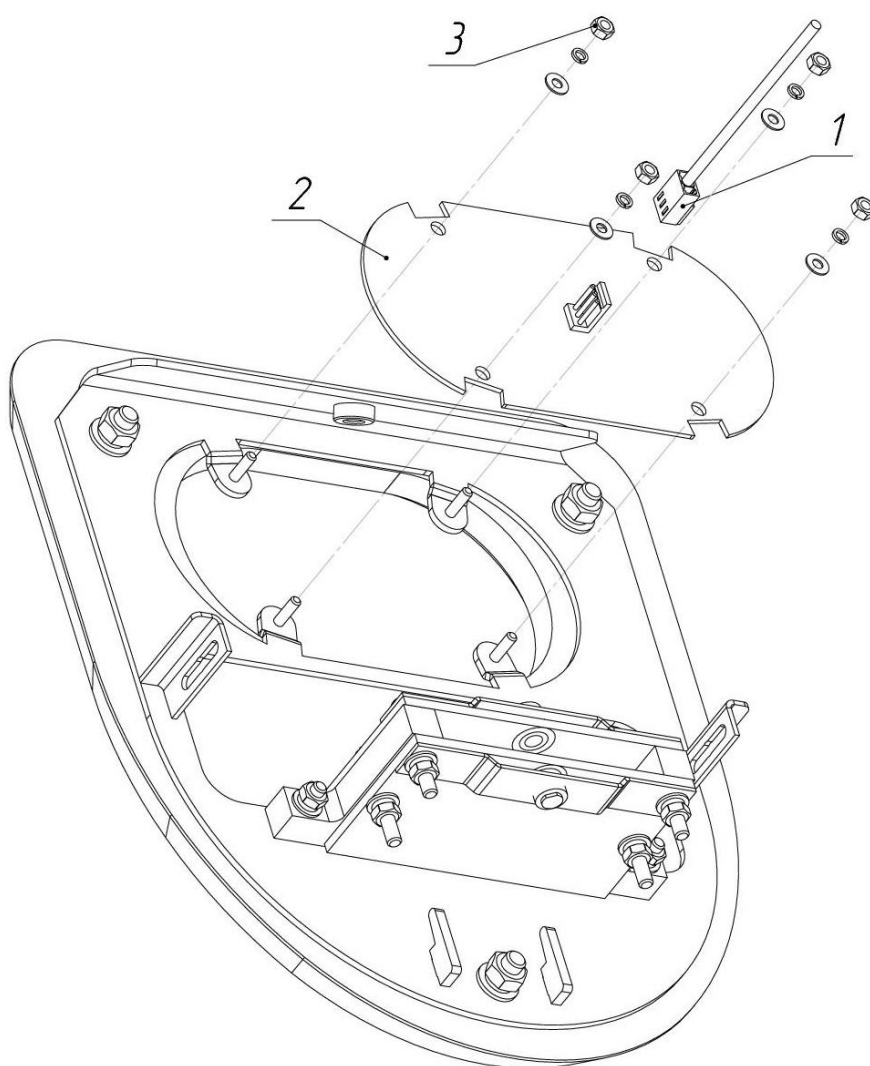

Fig. 8. *LED panel installation diagram*
6.2. Disconnect the cable connector (1, fig. 8) on the LED panel board (2, Figure 8).
6.3. Remove four M3 nuts (3, Fig. 8), remove lockwashers and washers.